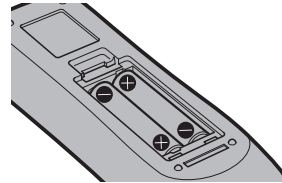

Fig. 2
- 2) Insert batteries and close the cover (insert the "⊖" side first). (Fig. 2)